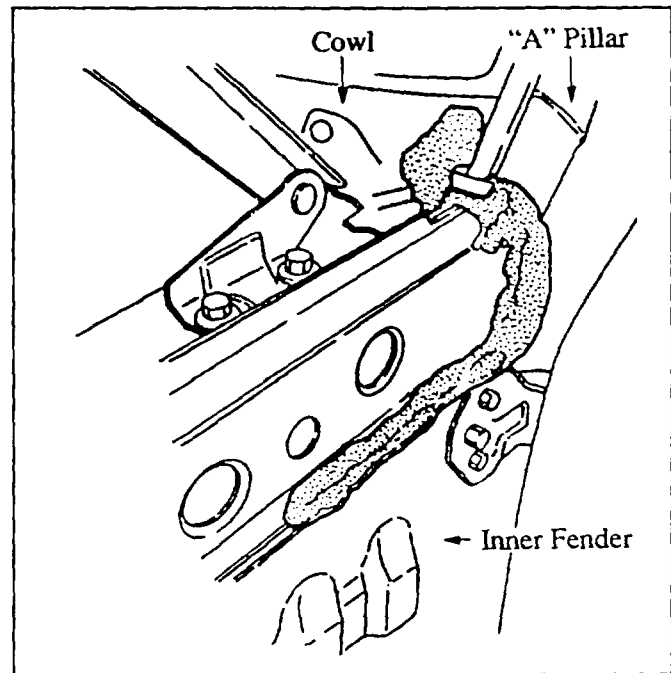

Figure 15: View of Adequate Body Sealer
1. Lift carpet and pad and feel for water. If water is present, remove windshield wipers and cowl plate. Check for missing sealer or holes along the lower "A" pillar-to-cowl seam. Apply sealer to any suspected areas. **Figure 15.**
2. Remove the door jamb nut and bolt, also remove the four (4) upper fender bolts. Using a mechanic's mirror, inspect sealer hidden by the upper fender for skips and pinholes. **Figure 15.**